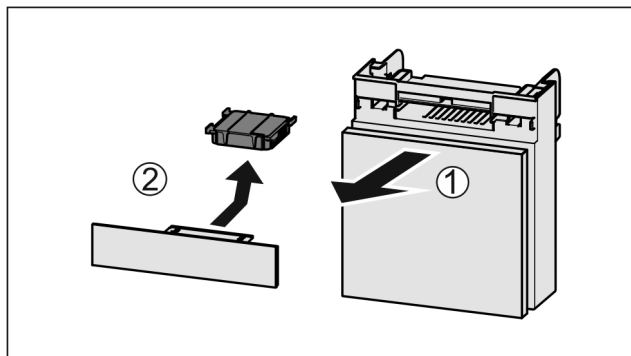

Fig. 109
- Pull out the compartment Fig. 109 (1).
- Remove the carbon filter Fig. 109 (2).